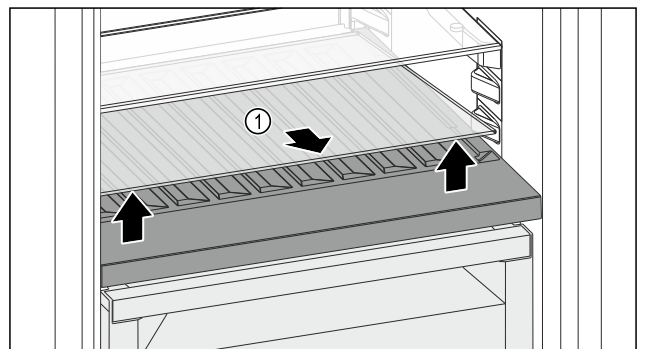

Fig. 142
- Lift the glass shelf Fig. 142 (1) at the front and remove.
- Store the glass shelf Fig. 142 (1) in a safe place outside the appliance.